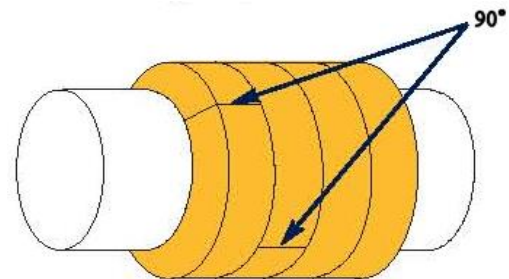

Figure 7. Packing Alignment
6. Check the shaft (6) for nicks and score marks; repair or replace as necessary.
8. Install the first ring of packing (180) with joint at approximately the 1 o'clock position (30° right of vertical). Refer to Figure 7 for packing alignment.